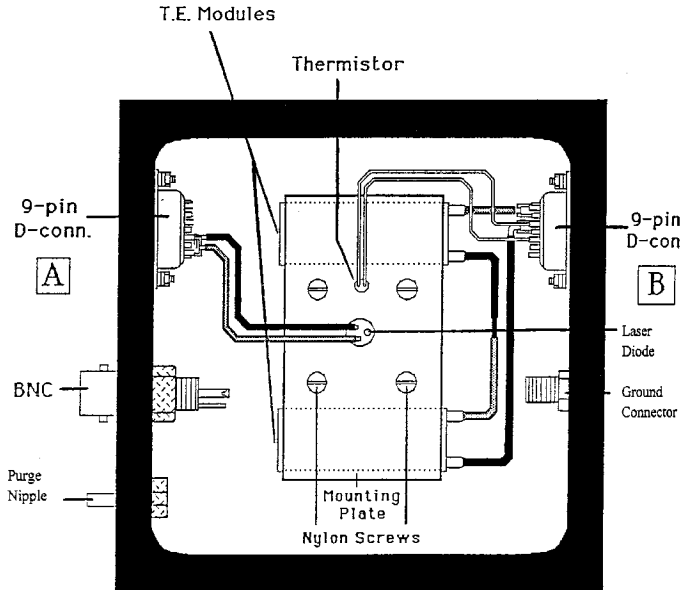
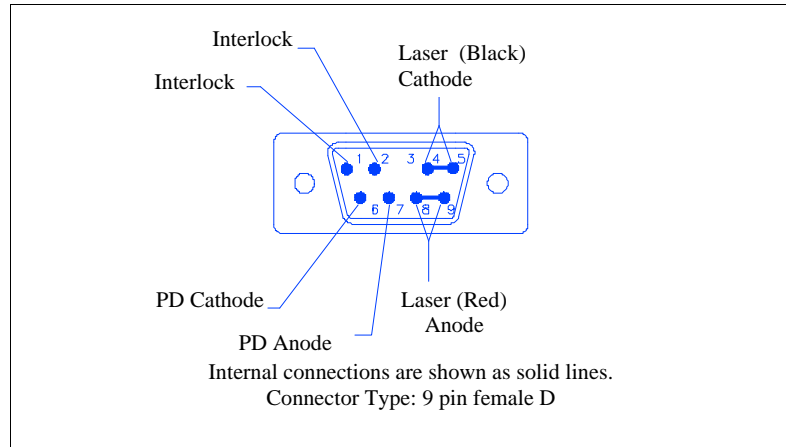

Figure 2.1 LDM-4412 Laser Housing Diagram
Figure 2.2 LDM-4412 Laser Cable Pinouts
Once the LDM-4412 laser mount is installed on an optical table, connect the LDM-4412 to a current source via the female 9-pin D-sub (connector A of Figure 2.1). Be sure that your current source is OFF while connecting the LDM-4412 laser mount.
If you are installing your own laser diode, be sure to observe the proper connections, as shown in Figure 2.1 and Figure 2.2.
Operate the LDM-4412 Laser Diode Mount using any ILX Lightwave current source (LDX-3620, etc.) and Temperature Controller (LDT-5910B, etc.). Operation with other current sources and temperature controllers is also possible, provided that correct wiring is observed. If an ILX Lightwave current source is used with the system interlock feature, the interlock connections are available at pins 1 and 2 of the current source connector (see Figure 2.2 on page 7). With the ILX Lightwave interlock feature enabled, the interlock pins must be connected before current can flow from the source.
- 3 Make the necessary circuit adjustments. Refer to Figure 2.2 for connector pinouts.